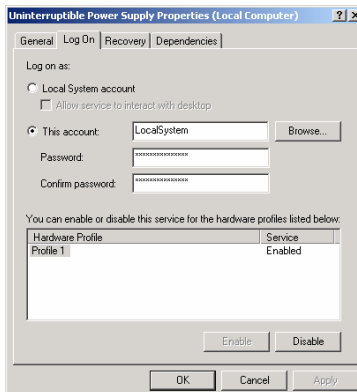

Figure 12 UPS properties box
6. Click the **Log On** tab, Figure 12 appears.